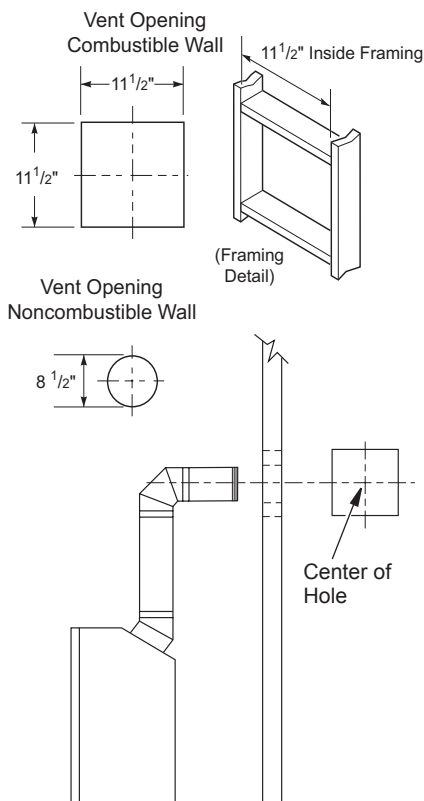
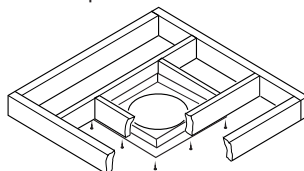

Figure 9 - Vent Opening Requirements
Figure 20 - Installing Firestop
5. Carefully determine location where vent pipe assembly will penetrate outside wall. Center of hole should line up with center line of horizontal vent pipe. Mark wall for a 11 1/2" x 11 1/2" square hole. Cut and frame square hole in exterior wall where vent will be terminated. If wall being penetrated is constructed of non-combustible material, such as masonry block or concrete, a 8 1/2" hole with zero clearance is acceptable (see Figure 9).
should be framed to 11 1/2" x 11 1/2" inside dimensions, as shown in Figure 9 on page 10 using framing lumber the same size as ceiling joists. If area above ceiling is an insulated ceiling or an attic, nail firestop from top side. This prevents loose insulation from falling into required clearance space. If area above ceiling is a living space, install firestop below framed hole. Firestop should be installed with no less than three nails per side (see Figure 20).
3. Cut a hole in the roof using locating hole as a center point. (Cover any exposed open vent pipes before cutting hole in roof.) The 11 1/2" x 11 1/2" hole must be measured on the horizontal; actual length may be larger depending on pitch of roof. There must be a 1" clearance from the vent pipe to combustible materials. Frame opening as shown in Figure 9, page 10.